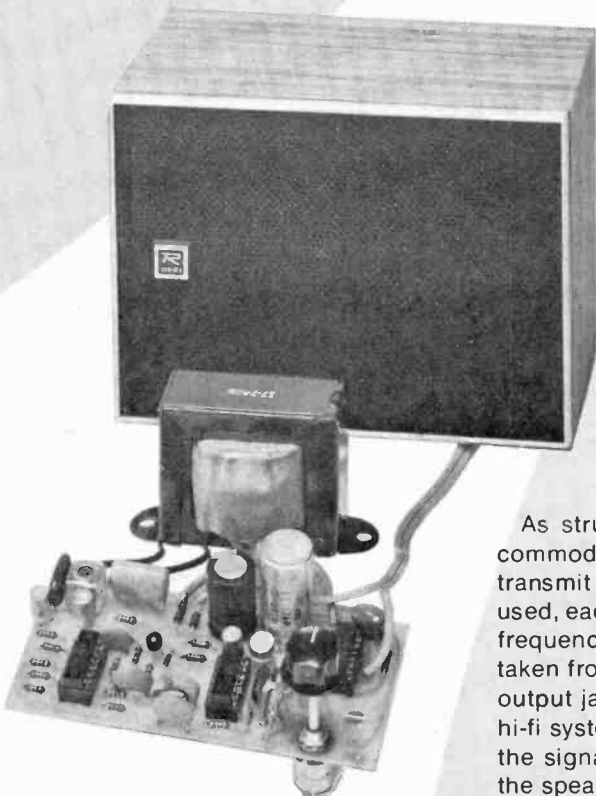

Fig. 1. Two inputs are provided for the transmitter. For a monophonic source, R7 and R8 can be eliminated.
About the Circuit. The transmitter, shown schematically in Fig. 1, uses voltage-controlled oscillator IC1 to drive the Q1 amplifier. The dc power bus is regulated by IC2.
- C4—See Fig. 1 for value
- C7—See Fig. 1 for value